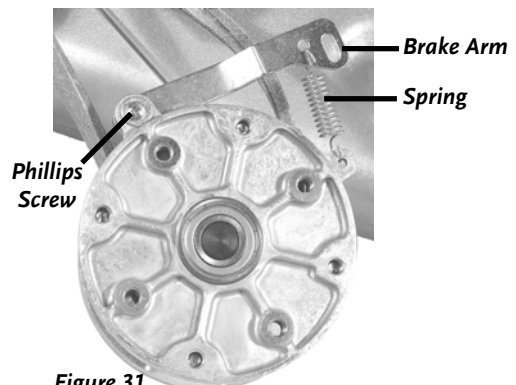

Figure 31
6. Turn the Bearing Assembly over to expose the Brake Arm Assembly and unhook the Tension Spring from the Brake Arm (*Figure 31*).
7. Remove the Phillips Screw (*Figure 31*) retaining the Brake Arm.